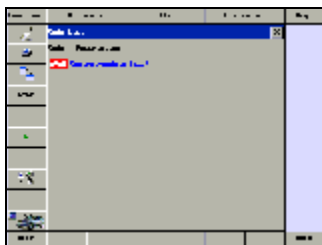

Fig.3.43
2. ① Click **CAS Car Access System** to read the DTC(s) and the Description(s) (See Fig.3.43).